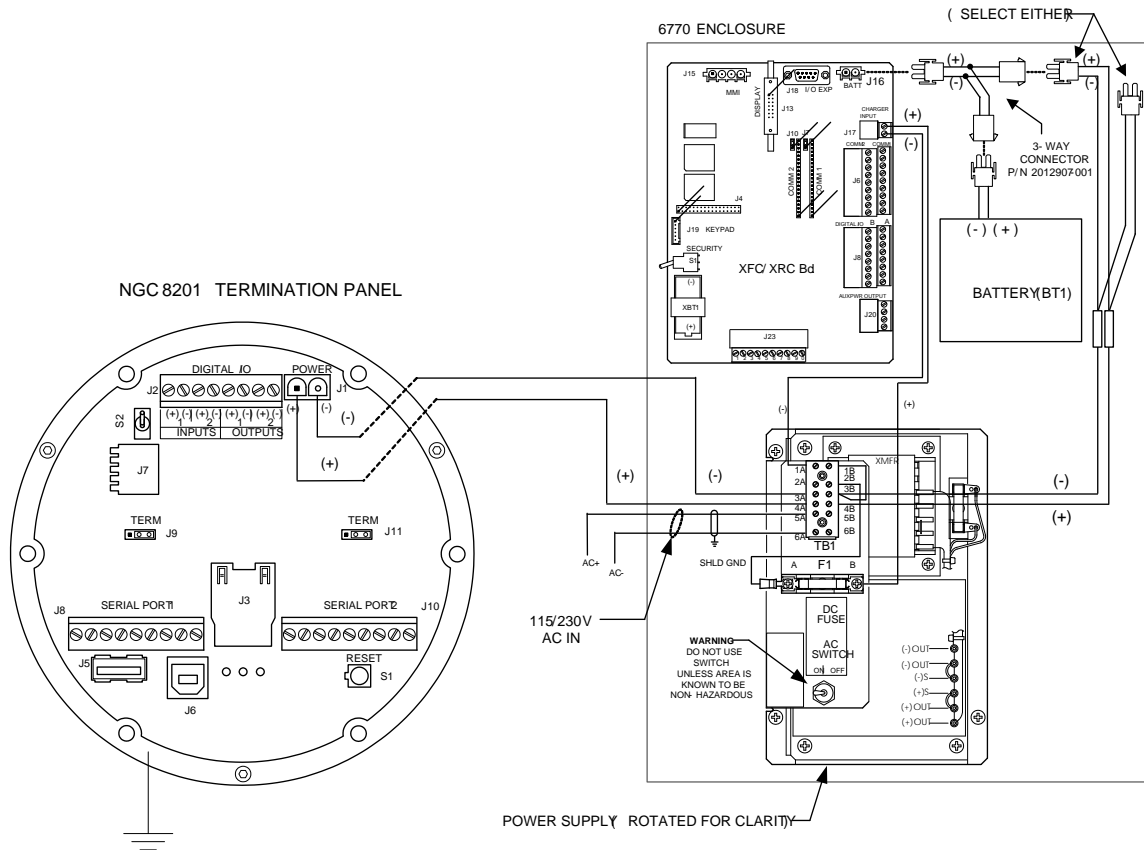

Figure 3-76 Battery Pack with AC Power Supply Wiring Instructions
- 3) For AC charging systems containing one or two batteries (see Figure 3-76), connect the battery cable to the prewired power supply cable(s).